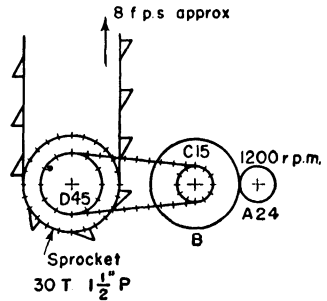

Fig. P 11.4
11.4. A conveyor belt, Fig. P 11.4, is to move with the velocity shown. Determine the number of teeth on gear *B* and the direction of rotation of gear *A*.